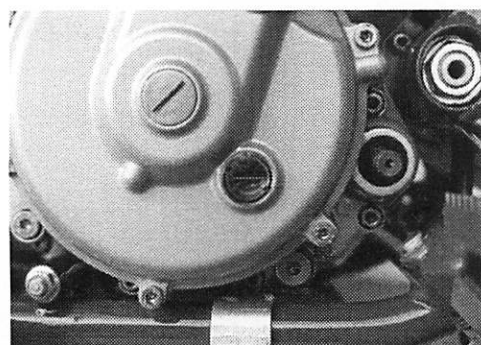

Figure 4.3
11. Oil should cover approximately  $\frac{1}{2}$  of sight glass on clutch cover. (Figure 4.3)